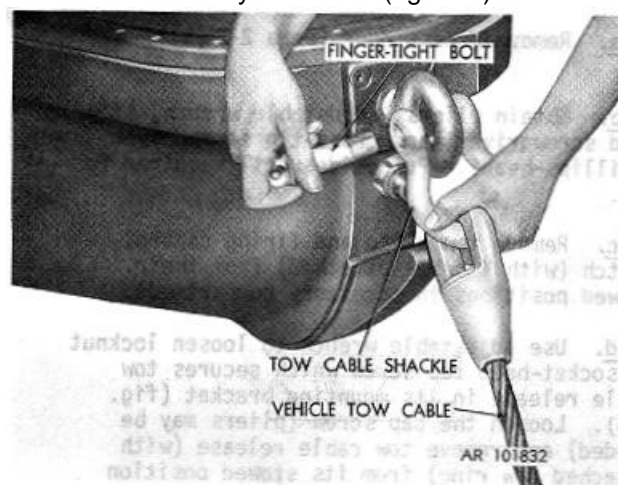

Figure 2-5. Securing vehicle tow cable to eyebolt.
d. Obtain tow cable from tow vehicle and attach one end to tow vehicle. Using shackle, secure other end of tow cable to front eyebolt of kit (fig. 2-5).